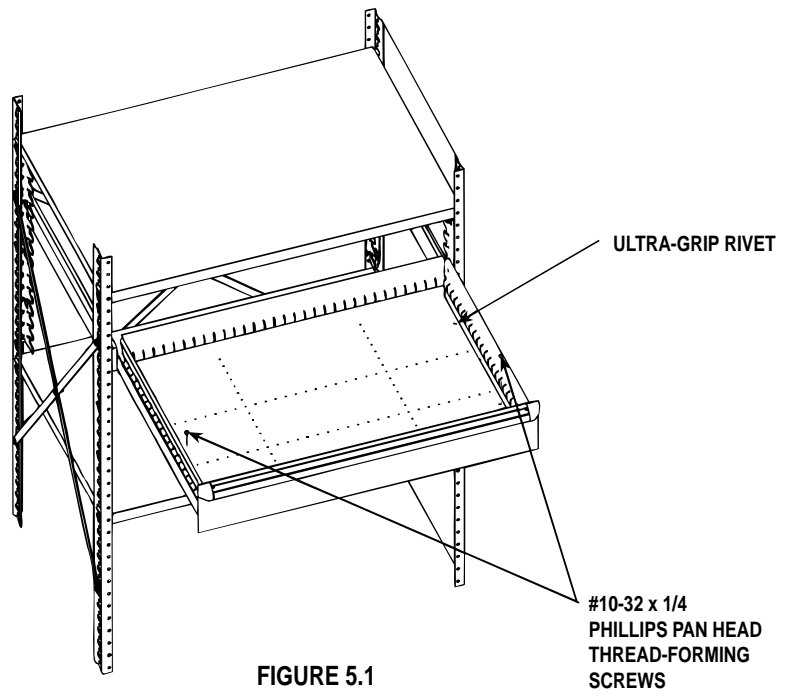

FIGURE 5.1
2. Attach the drawer to the drawer slides using two (2) #10-32 x 1/4 thread-forming screws. (See Figure 5.1). Proceed to Step 6.